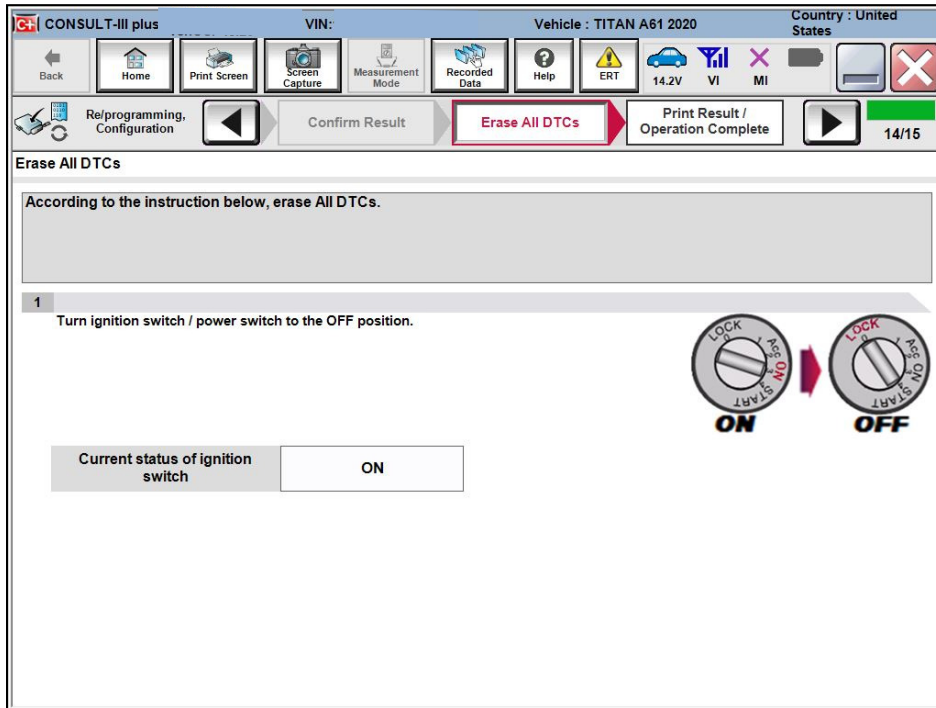
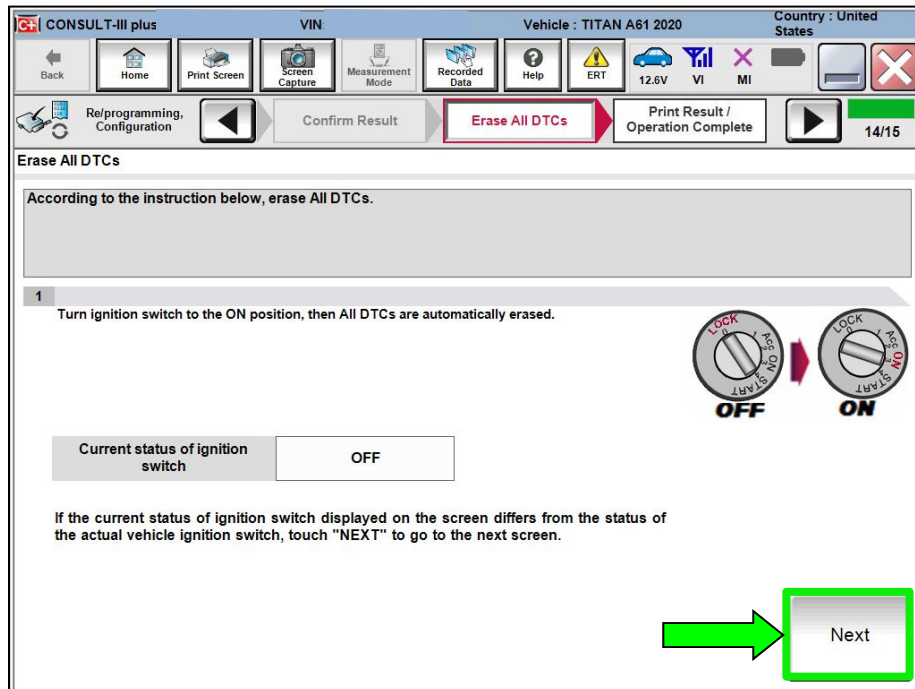

Figure 19
Figure 20
- Follow the on-screen instructions as shown in Figure 19 and Figure 20.